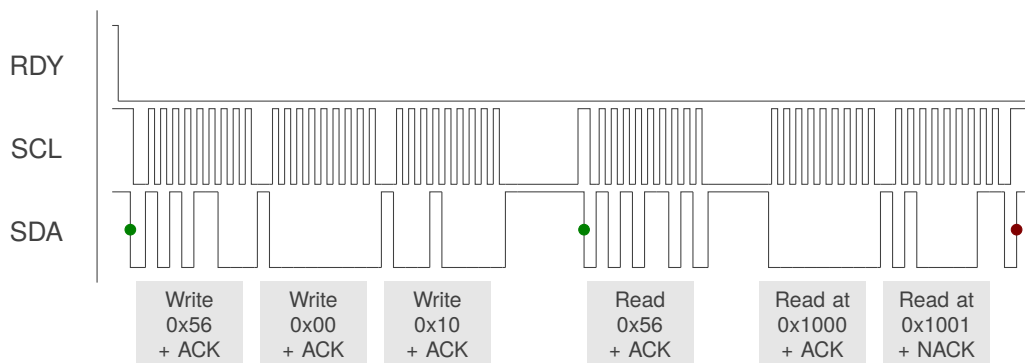

Figure 12.1: I2C Read Example — Read System Control Registers 0x1000 and 0x1001
A typical read operation is displayed in Figure 12.1. The master device waits for the RDY line of the IQS396 to go low, indicating the availability of new data and an available communication window. Once the RDY interrupt is triggered, the master initiates communication by sending a start condition followed by the device address and a write command. The IQS396 responds with an acknowledgement, after which the master device will transmit two bytes defining the register address. The master then sends a repeated start condition, followed by the device address with a read command. The IQS396 transmits data from the requested address and will continue to do so while the master acknowledges each byte. The read operation is ended when the master does not acknowledge the last byte received and produces a stop condition.
- > Read the *System Control* Registers (0x1000 and 0x1001) as illustrated in Figure 12.1.
With the *Terminate Comms Window* setting enabled in the *Power Settings* register, a standard I2C STOP ends the current communication window. If multiple I2C transactions need to be done, then they should be strung together using repeated-start conditions instead of giving a STOP. Allowing an I2C STOP to terminate the communication window is the recommended method, as illustrated in Figures 12.1 and 12.2.